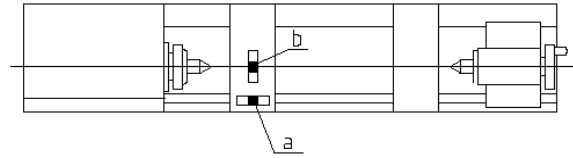

Figure 6-3
- Use a machinist's precision level on the bed ways both front to back and side to side, as shown in Figure 6-3. Take the reading in one direction every ten inches. Make sure the ways are clean and free of any debris before placing a level upon them.
Deviation over bed length (see Figure 6-3):